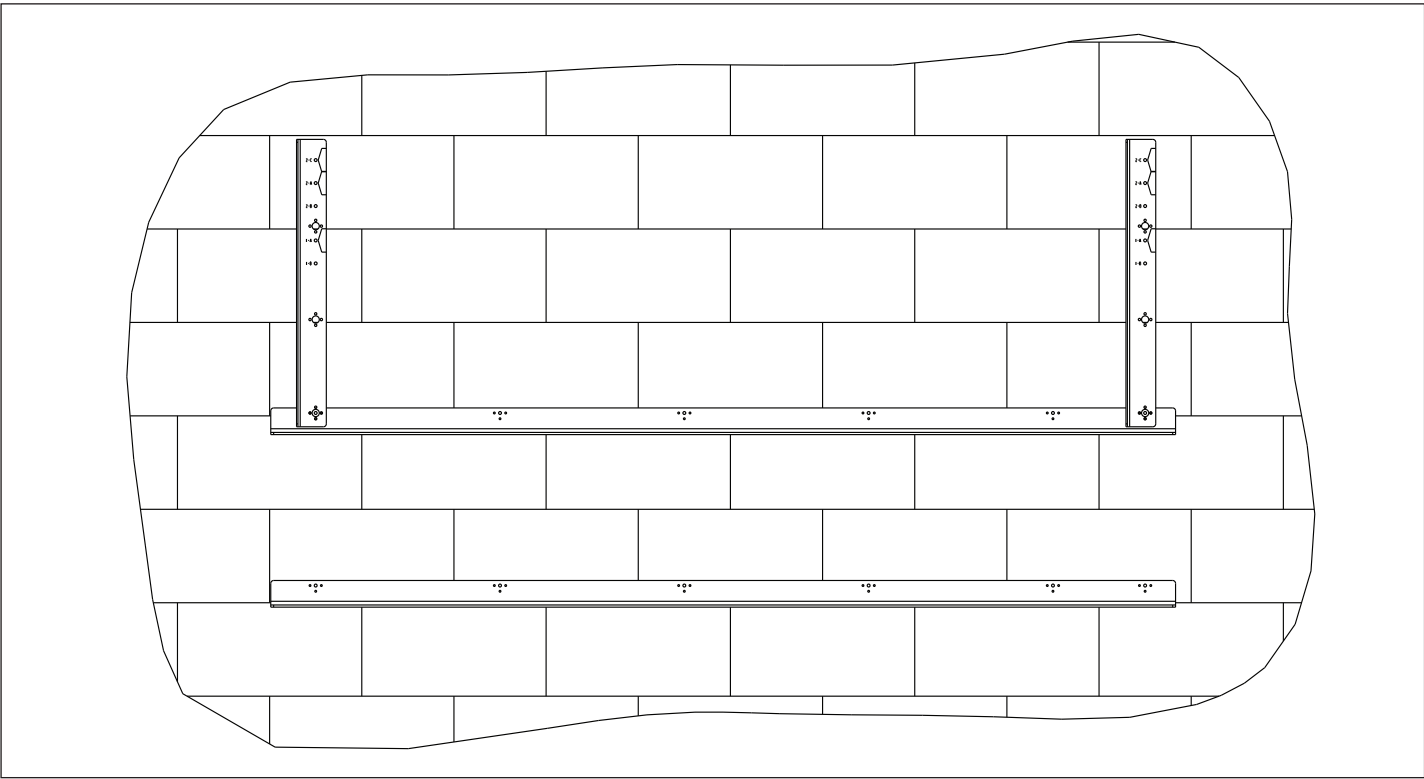

Figure 6: Install Third Row & Higher Horizontal Wall Angles Vertically
5. Install third row and higher horizontal wall angles vertically while referring to **Figure 6**: